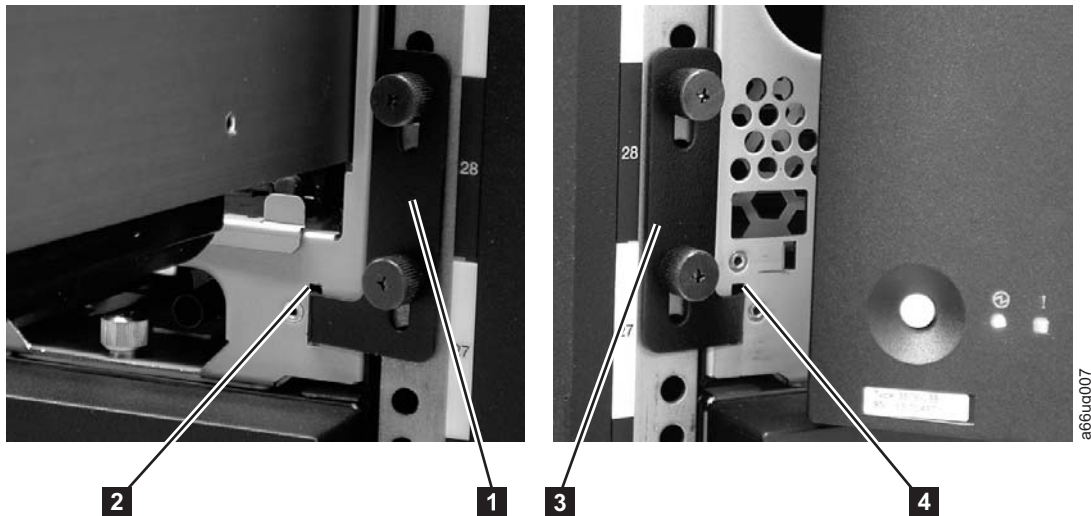

Figure 8-9. Removing the rack ears (Control Module shown)
2. Remove the right rack ear (**1** in Figure 8-9).
3. Remove the left rack ear (**3** in Figure 8-9).
2. Replace the right rack ear (**1** in Figure 8-9).
- a. At the bottom right of the I/O Station position on each library unit, there is a slot (**2** in Figure 8-9). Insert the right rack ear into the slot.
3. Replace the left rack ear (**3** in Figure 8-9).
- b. Insert the left rack ear into the slot (**4** in Figure 8-9).